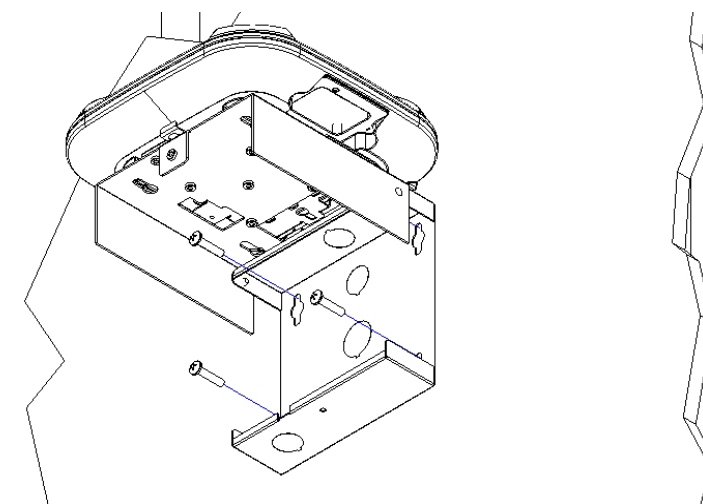

Figure 5 - Wall Installation
Step 3b (**Surface Mounted**) – The base can be surface mounted directly to a wall or ceiling using screws (not supplied) inserted into the four (4) keyhole openings located on the outer corners of the base. Use the base to mark the screw locations on the wall or ceiling and attach the base. A surface mount box or biscuit jack and equipment cord can be mounted inside the Model 900. Use an adhesive backed surface mount box. Consider bend radius of permanent link cable and data cord when attaching surface mount box (Ref. Figure 5)